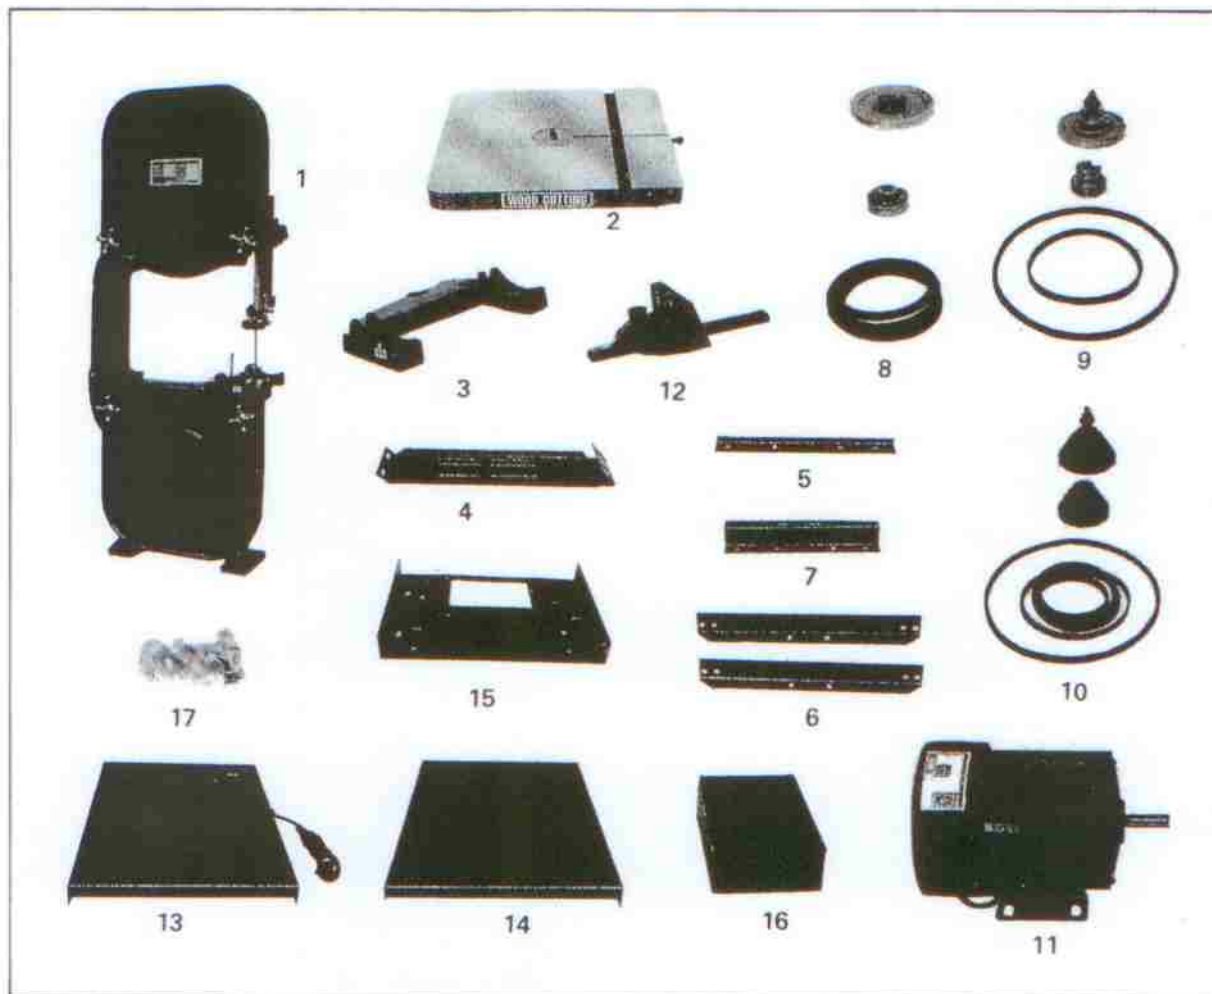

Fig. 1
Carefully unpack the band saw and check all items. Figure 1, illustrates the contents of the carton. Do not discard any packing material until the band saw is fully assembled operational.
Table supporting screw (C) is packed in the hardware package bag. See Fig. 1 (17#).